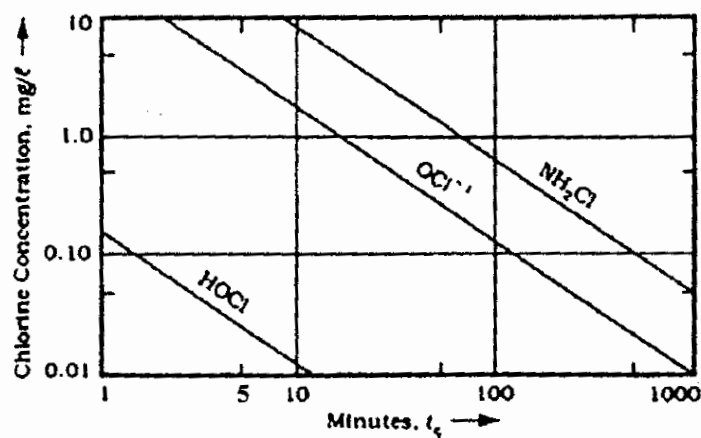

Figure Q5-1
- 5D. A treated water after disinfection has 40% OCl^- and 60% HOCl . The concentration versus contact time for 99% inactivation of *E.coli* is given in Figure Q5-1 below. For a contact time of 5 minutes, determine the total amount of chlorine that will have to be added to water to achieve the desired inactivation, i.e., 99% inactivation of *E.coli*.